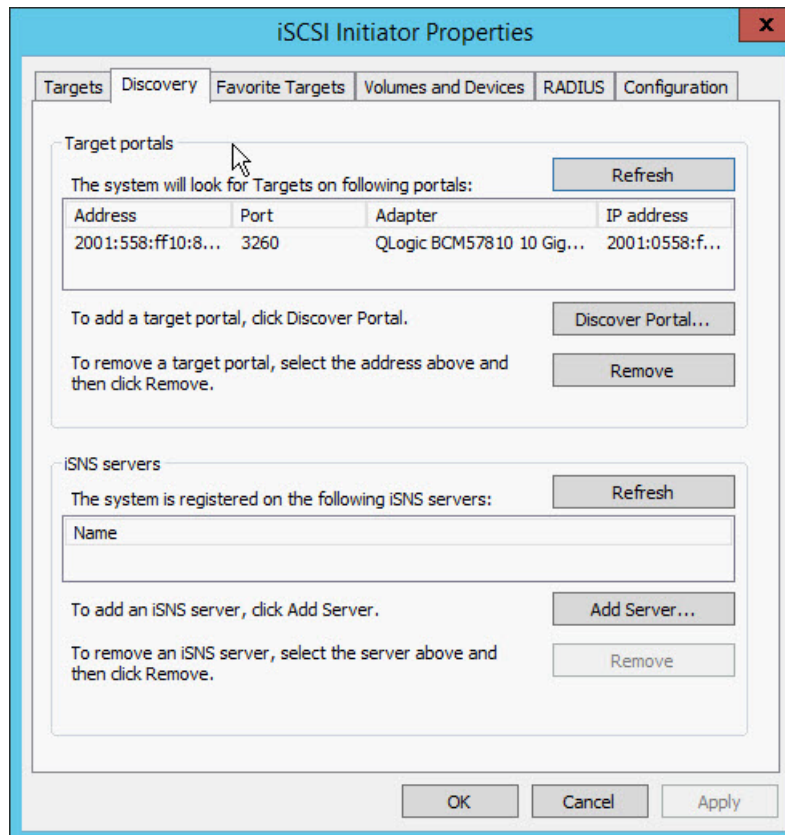

Figure 11-12. iSCSI Initiator Properties: Discovery Page
7. On the iSCSI Initiator Properties, click the **Discovery** tab, and then on the Discovery page, click **OK** to add the target portal. Figure 11-12 shows an example.